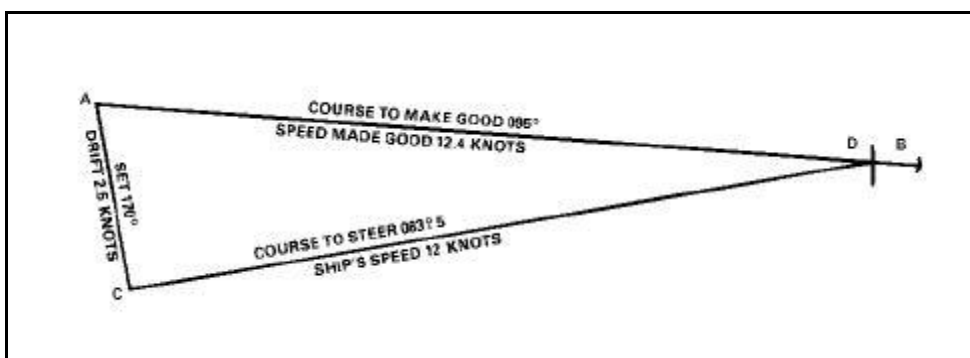

Figure 6-26. Find Course to Steer and Speed Made Good
**Example 2:** Determine the course to steer at a given speed to make good a desired course with this information: ship's speed 12 knots, the desired course  $095^{\circ}$ , the current's set  $170^{\circ}$ , and the drift 2.5 knots (Figure 6-26, page 6-46).